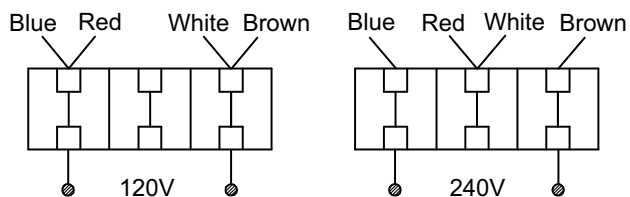

Figure 7 – Wiring diagram.
- Motor and wires are installed as shown in wiring diagram (See Figure 7). Motor is assembled with approved, 3-conductor cord to be used at 120/240 volts. Motor is prewired at the factory for 120 volts.